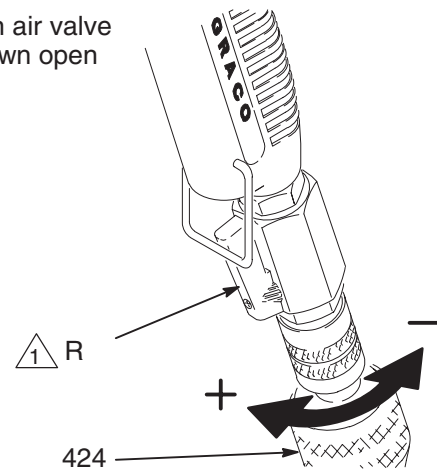

Fig. 8
- Air bleeds from the gun nozzle whenever the gun air ball valve (R) and air restrictor valve (424) are open. Close the gun air ball valve to stop the air, if desired. Otherwise, it can stay open except during priming. See Fig. 8. See **Spraying Techniques** on pages 12 and 13 for more gun characteristics.